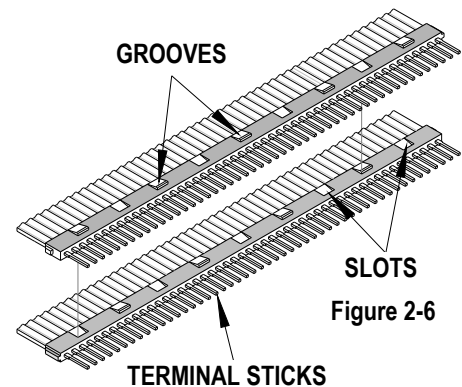

Figure 2-6
5. Place the bottom row LFH™ stick assembly into the drawer. The stick drawer has small slots and grooves in it which it accepts the stick latches to avoid loading a stick upside down. See figure 2-6.